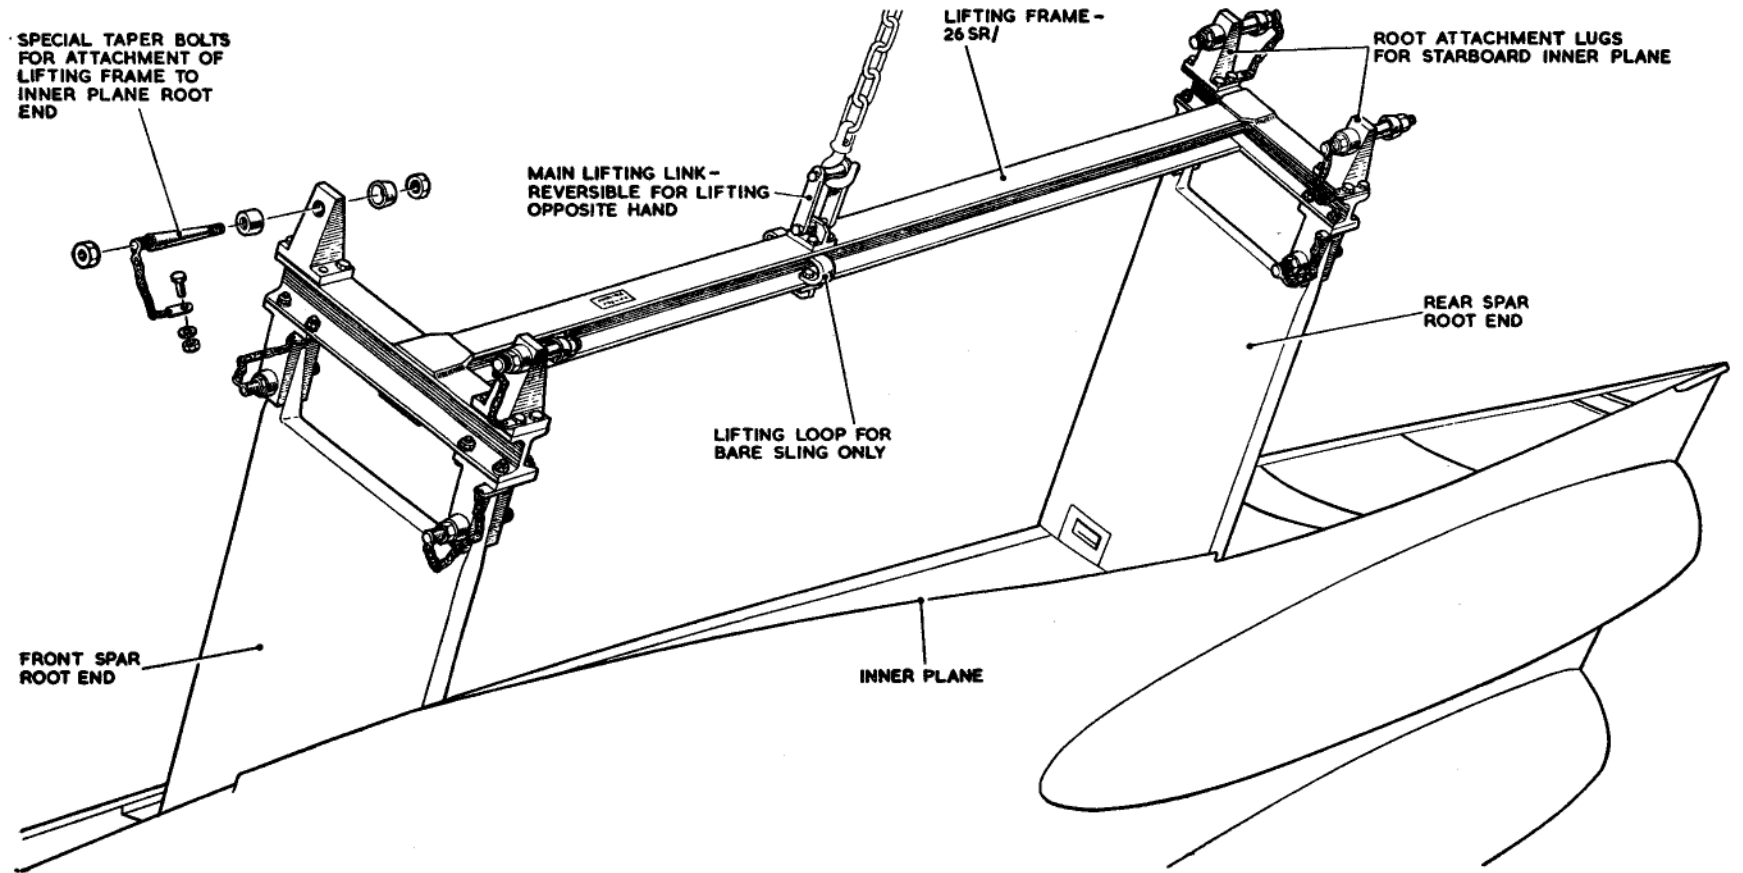

Fig. 15. Inner plane vertical slinging
Key to Fig. 15 (External markings (2))
Key to Fig. 15 (External markings (2)) *contd.*